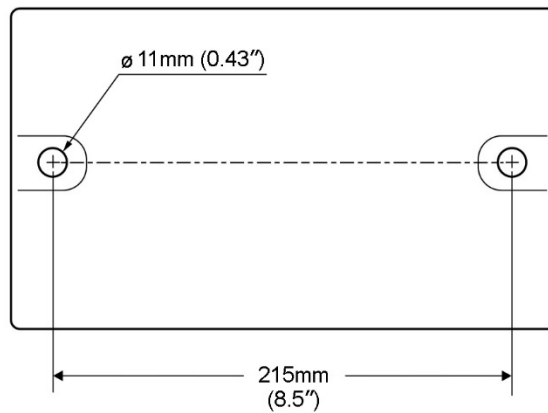

Figure 4-1: IBG-8VS hole centers
1. Align the mounting holes on the grinder with predrilled holes in a bench or grinder stand. Figure 4-1 shows hole centers for mounting.